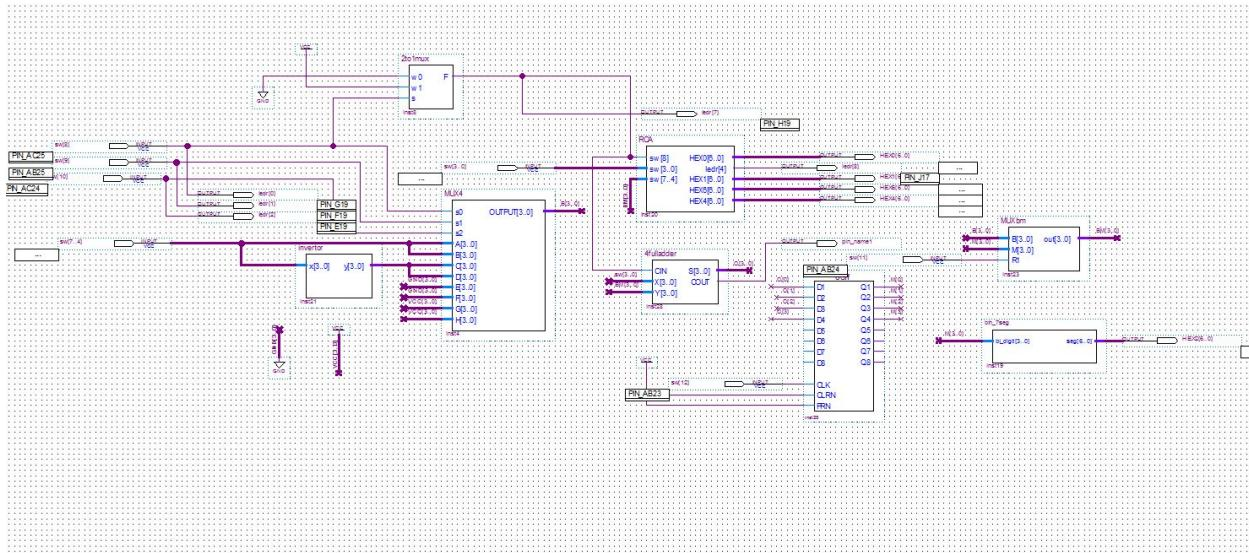
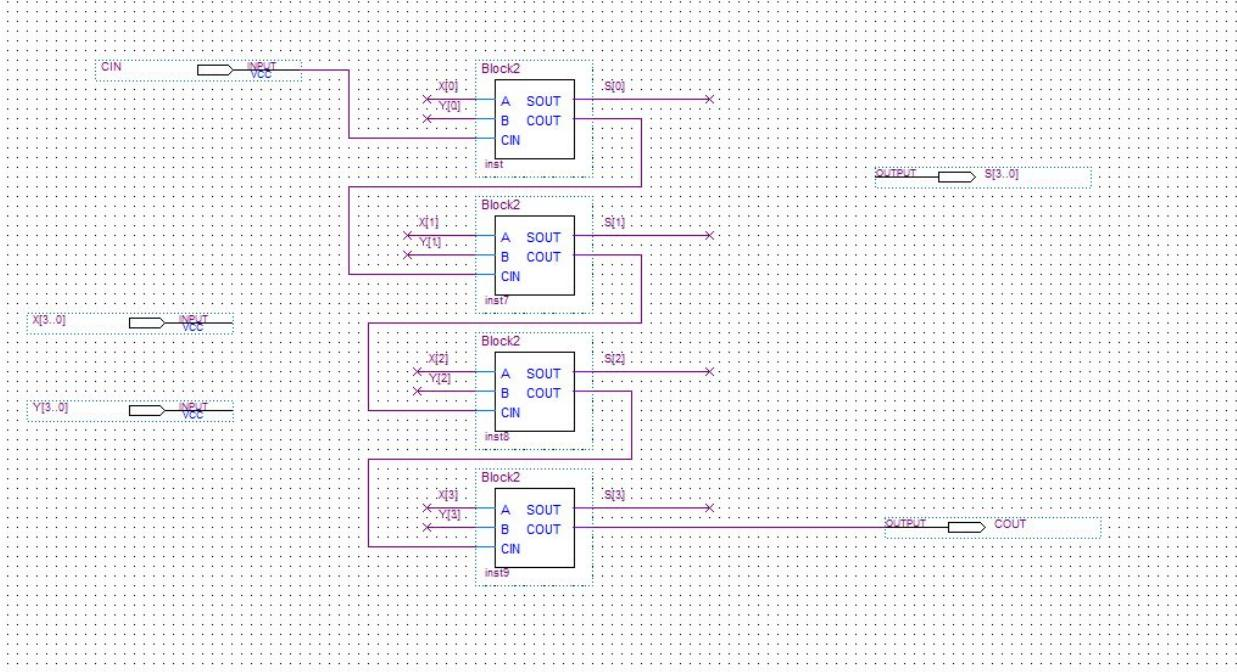
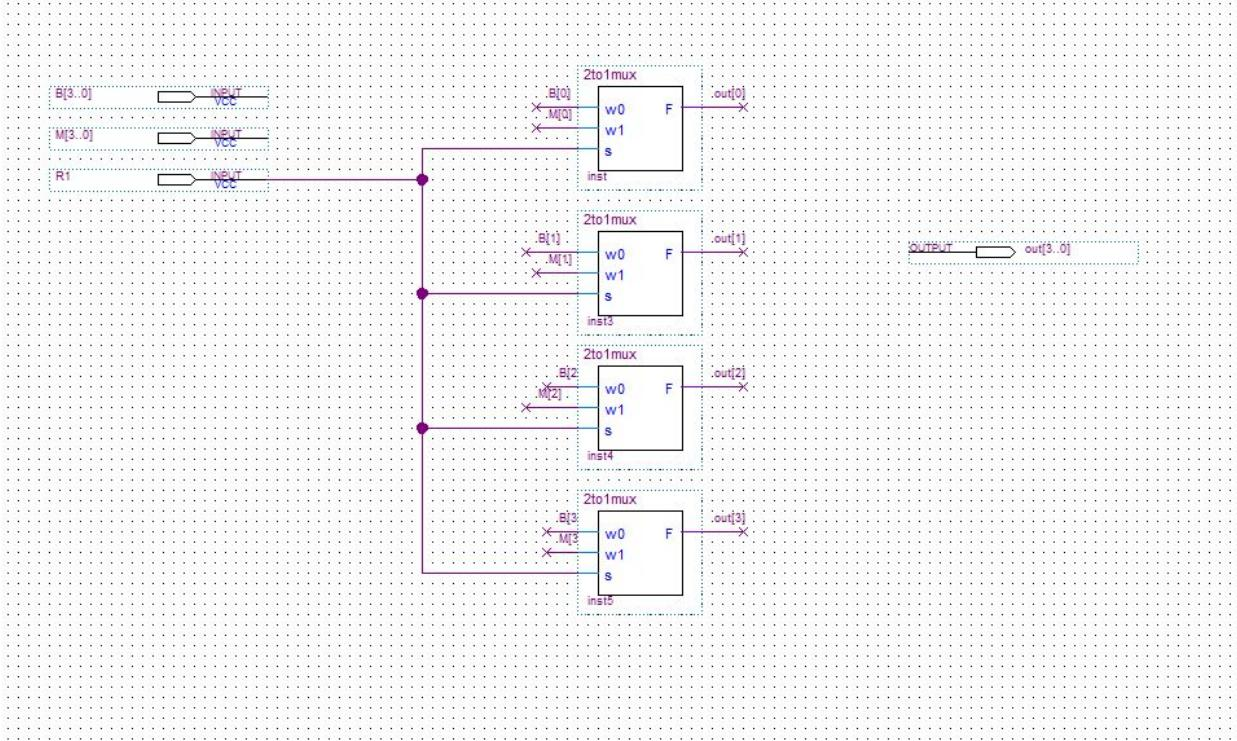

Figure 11. ALU with memory save component
Figure 12. 4-bit adder
Figure 13. MUXbm
1. Having the ALU that we just build, we add one $8dff$ component to make one memory location to save the results of an arithmetic operation, and the final design is shown in Figure 11. Since we didn't have a 4-bit output in ALU, we build a 4-bit adder (as shown in Figure 12) with carry-in which will add $A[3..0]$ and $B[3..0]$ and the 4-bit output will be the inputs D1 to D4 in the $8dff$ component. What's more, in order to implement the design that will choose either $B[3..0]$ or the saved memory $M[3..0]$, we build a MUXbm (as shown in Figure 13) which will choose $B[3..0]$ if the switch is 1, or $M[3..0]$ if the switch is 0.